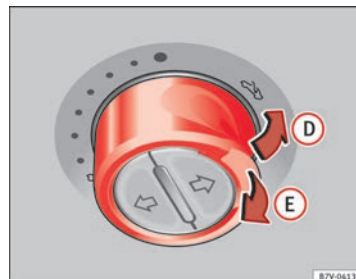

Fig. 58 On the interior roof lining: Press the button and pull on it to lift and close the sliding sunroof.
| ⇒ fig. 58   |                      |  |
- *Panorama sliding sunroof*: Within five seconds of triggering the anti-trap function, pull the control all the way back ⇒ fig. 58 (arrow E) until the panorama sliding sunroof closes fully.